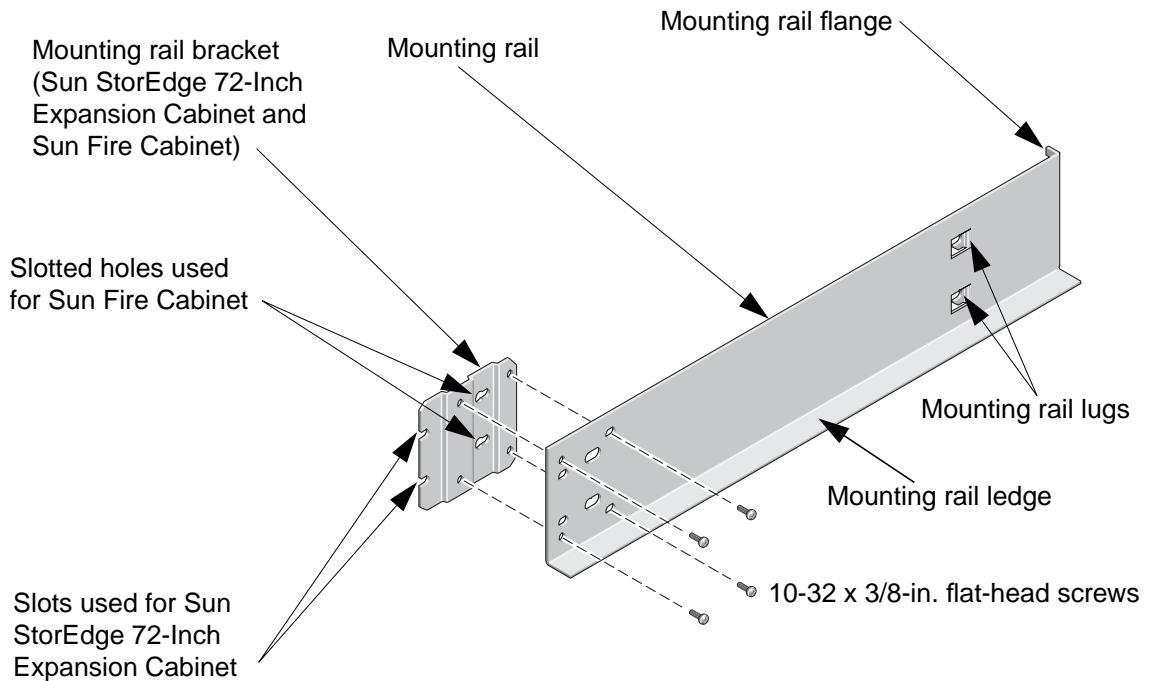
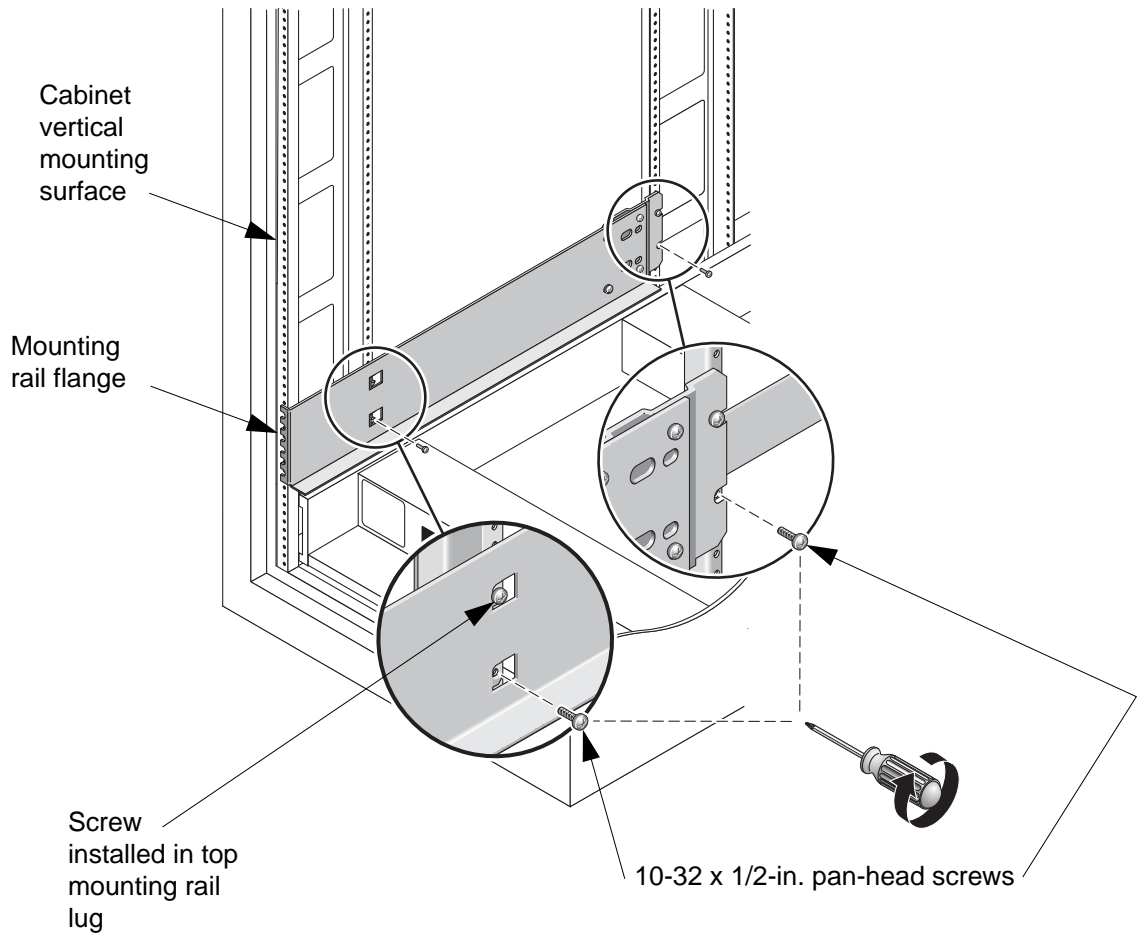

FIGURE 4-11 Mounting Rail Assembly (One of Two) for Sun StorEdge 72-Inch Expansion Cabinet and Sun Fire Cabinet
FIGURE 4-13 Positioning the Mounting Rail (One of Two) in the Cabinet
One of two Sun StorEdge 72-Inch Expansion Cabinet and Sun Fire cabinet mounting rails and brackets are shown in FIGURE 4-11. The 12000/24000 director will *rest* on the mounting rail ledge.
- 1. Assemble the mounting rail and mounting rail bracket as shown in** FIGURE 4-11. Tighten the four 10-32 x 3/8-in. flat-head screws to a torque of 25 inch-pounds (28.8 cm-kgs). Make sure the screw heads are flush with the mounting rail.
3. Place the mounting rail assembly as shown and slide the rail to fully engage the two screws in the mounting rail lug and the mounting rail bracket slot (for the Sun StorEdge 72-Inch Expansion Cabinet) or the bracket slotted hole (for the Sun Fire cabinet). See FIGURE 4-11 and FIGURE 4-13.